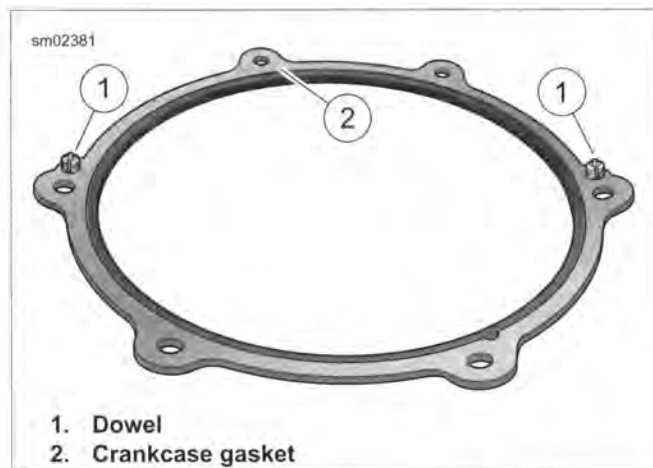

Figure 5-24. Crankcase Gasket
See Figure 5-24, Dowels (1) in crankcase gasket (2) must engage holes in crankcase.